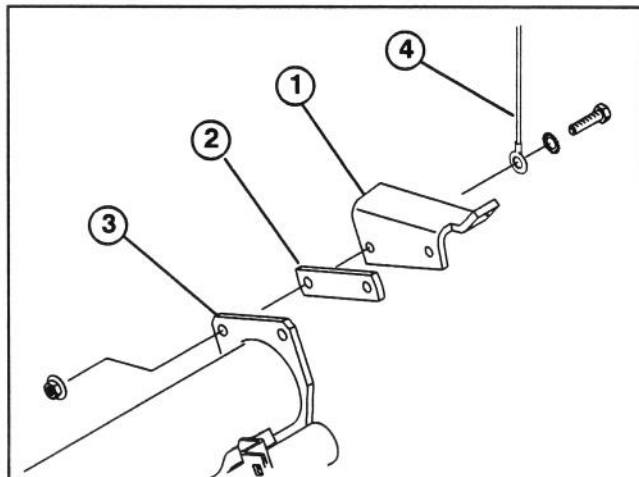

Figure 7
31. Mount adjustment bracket, clutch bracket spacer and wire harness ground wire to jackshaft support bracket with (2) capscrews, (1) external tooth lockwashers and (2) flange locknuts as shown in figure 7.